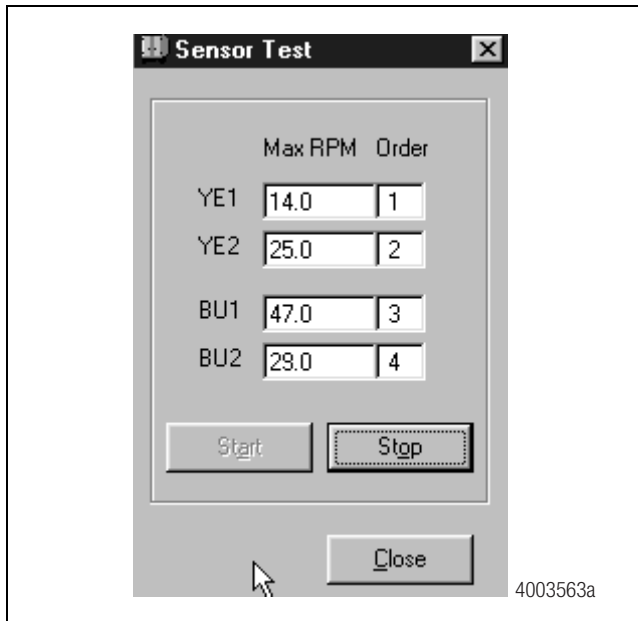

Figure 18
7. Check the screen for sensor output. Figure 18.
8. Check the **Order** fields to verify the sensors were installed in the right location based on the orientation of the valves. Figure 18.